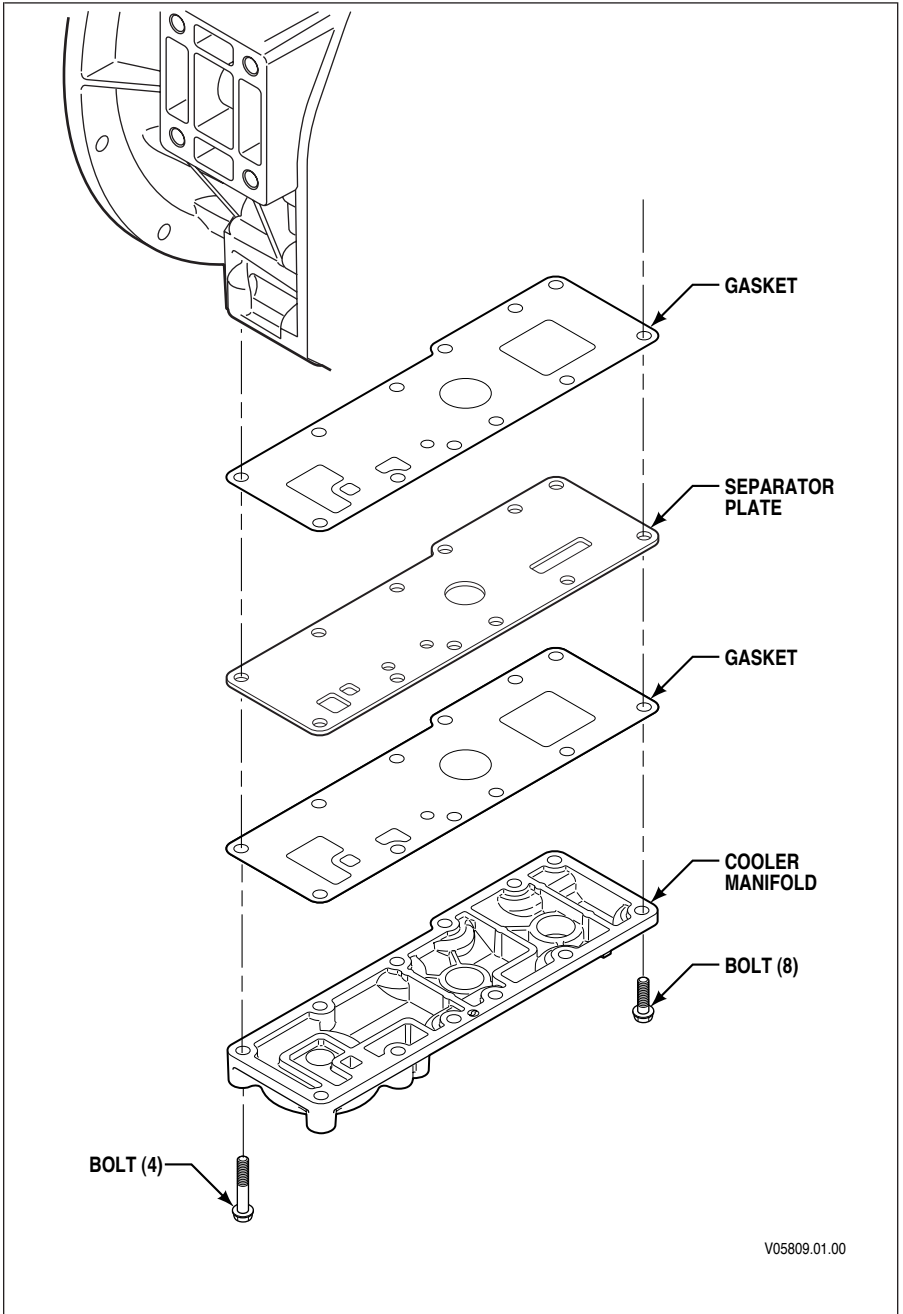

Figure 6–2. Cooler Manifold Gasket Replacement
2. Align the bolt holes in the parts being reinstalled. Be sure the parts are in the order shown in Figure 6–2.